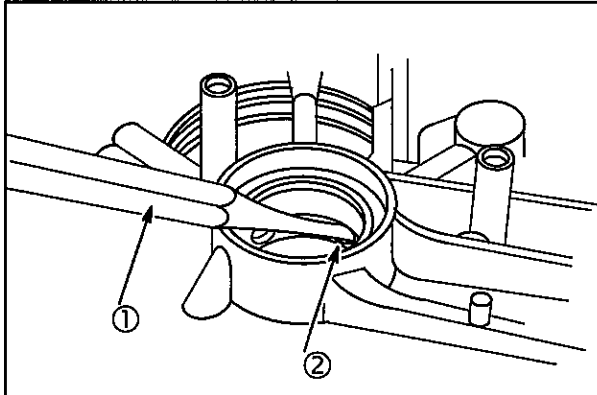

Fig. 10
1. Drive roll pin (2) into oil gallery using a $\frac{3}{16}$ " punch (1), **Fig. 10**.